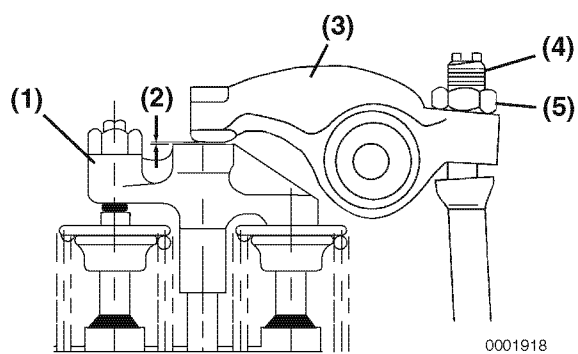

Figure 6-86
12. Hold the adjusting screw (**Figure 6-86, (4)**) while tightening the valve adjusting screw lock nut (**Figure 6-86, (5)**). Recheck the clearance.